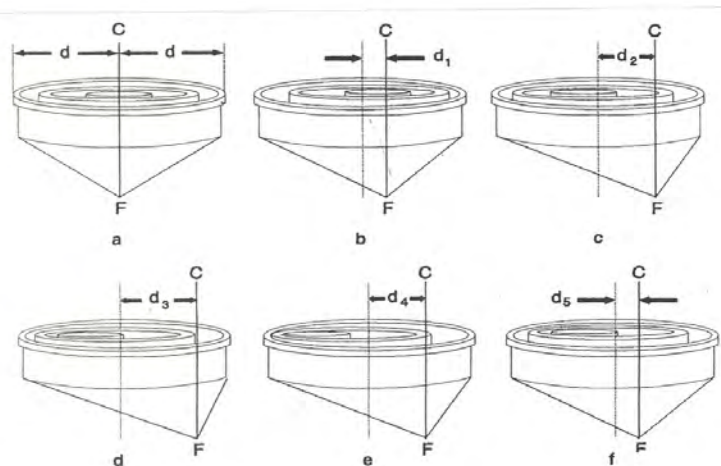

Figure 2 Typical gyral motion of comminution vessel.
Figure 2 illustrates a grinding vessel located a distance (d) from a focal point (F) relative to the center axis of the system (C). At rest (Figure 2a), the comminution vessel together with its grinding media and sample are stationary (the grinding media are shown to be in center alignment with the center axis of the system for illustrative purposes). As a moment is initiated by the mechanics of the system pivoting at the focal point F , Figure 2b, the grinding vessel is laterally displaced a distance (d_1) from the center vertical axis (C); the grinding media and sample generally lag behind the grinding vessel displacement direction as they are propelled by its trailing side. Subsequent increases in instability, Figure 2c, gyrally enlarge the displacement distance (d_2) of the grinding vessel relative to the center vertical axis up to a physical limitation imposed by other mechanics integrated in the system. At the limitation displacement distance (d), Figure 2d, of the grinding vessel, the mechanics gyrally reverse displacement direction accompanied by a corresponding decrease in displacement distance (d_4), Figure 2e, in a circular arc configuration (not shown). The grinding elements, however, continue in the same initial travel path with increased speed and inertia propelled by the trailing side of the grinding vessel to impact its interior walls. The reversal of grinding vessel direction in the oncoming path of the sample substance and grinding media is extremely energetic and is primarily responsible for comminution. The cycle repeats itself in the opposite direction, Figure 2f. Furthermore, the reversal of displacement direction of the grinding vessel in a circular arc adds a milling effect to the sample substance created by the grinding media that acquires a spin attributed to the gyral mechanics.